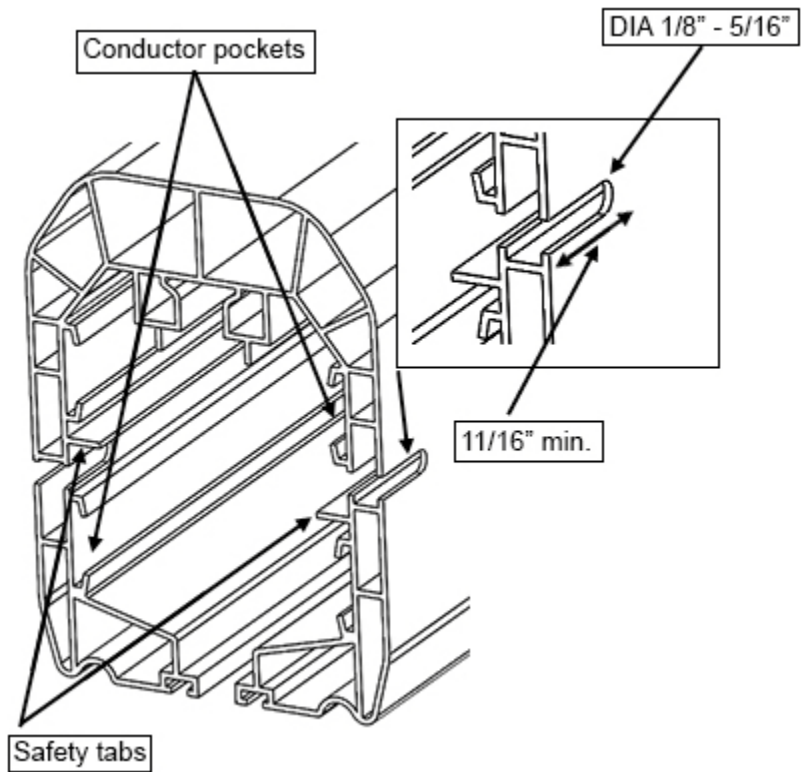

Figure 34: Notch Placement (20-130 A)
4. With a small rotary tool make a minimum 11/16" long notch with a 1/8"-5/16" width on each side of the bar (Figure 34). This notch is important to prevent tracking (conduction across the surface of the plastic) of electricity between the phases.
- a. The notch should be located between the safety tab and the pocket where the conductor bar is located. Sides are not symmetrical (Figure 34).